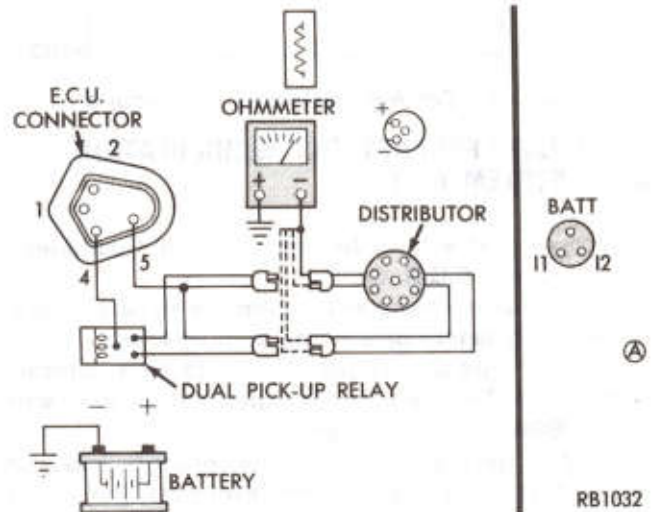

Fig. 12—Testing for Short at Each Pick-Up Coil Terminal
ohmmeter (ground one side of ohmmeter) (Fig. 12). If there is no short go to Step (24).